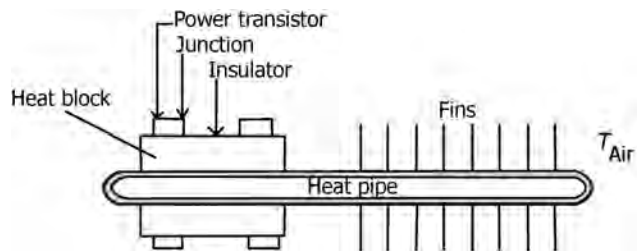

FIGURE 13.26 Heat pipe heat sink for power transistors.
- Figure 13.26 illustrates typical heat pipe working as a heat sink for power transistors.